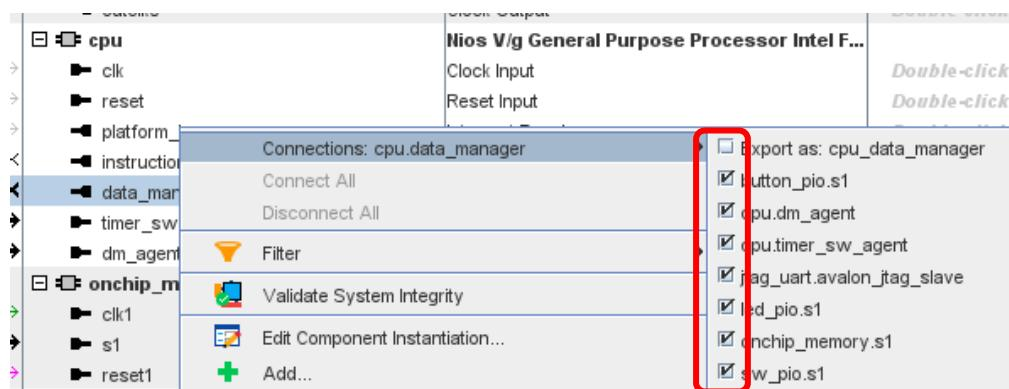

Figure 15 Connections
1. Connect the Nios® V processor to various IPs. Referring to Table 1 and Figure 14, connect each IP to the **instruction_manager** and **data_manager** of the cpu. For the connection method, the contact points of each bus shown in [Table 1] are indicated by a white circle (O). Click with the mouse to make it a black circle (●) to connect the IPs. As shown in Figure 15, you can right-click each port name and select **Connections: < port name >**.